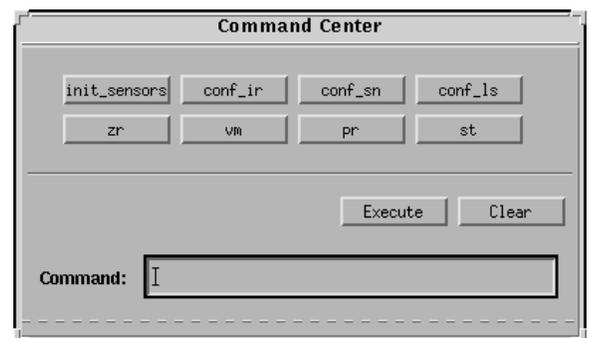

Figure 3.3 The Command Line Panel
- Select the PANELS item in the robot window, and choose COMMAND LINE. The window of *Figure 3.3* will appear.